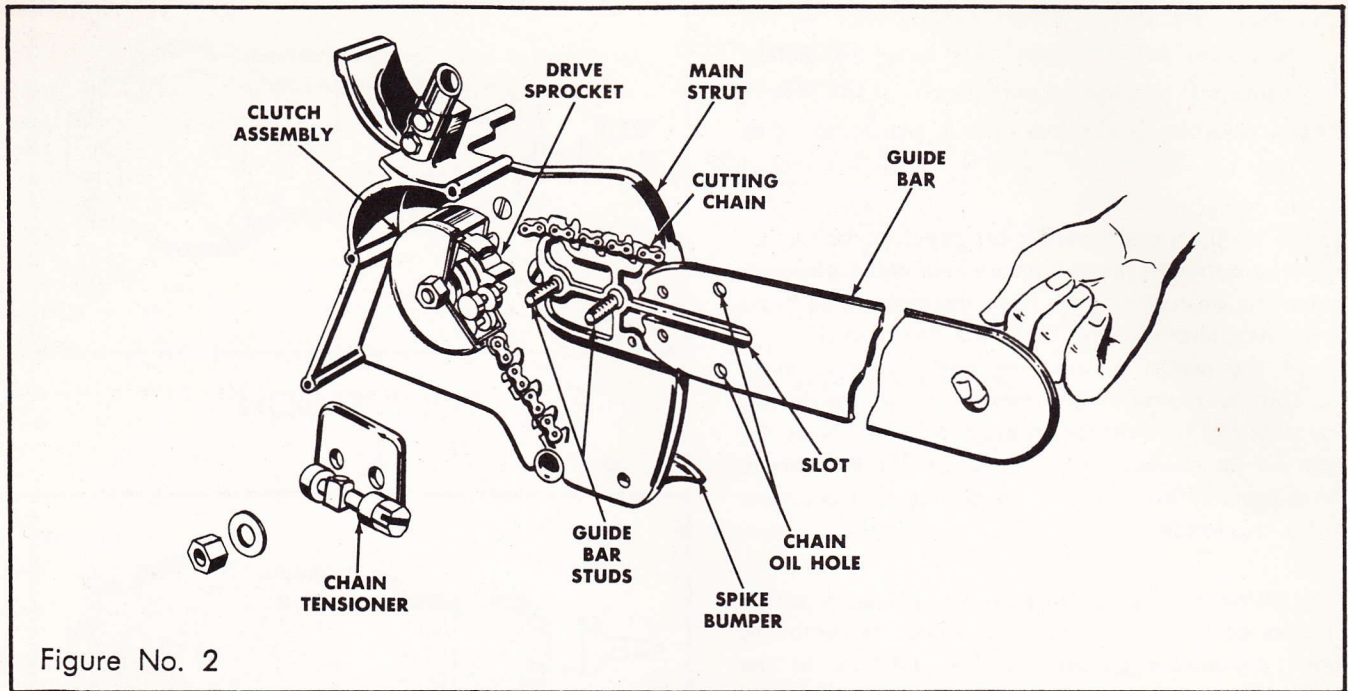

Figure No. 2
- 1 Slide the guide bar over the mounting studs to the full length of the guide bar slot. (See Figure No. 2)